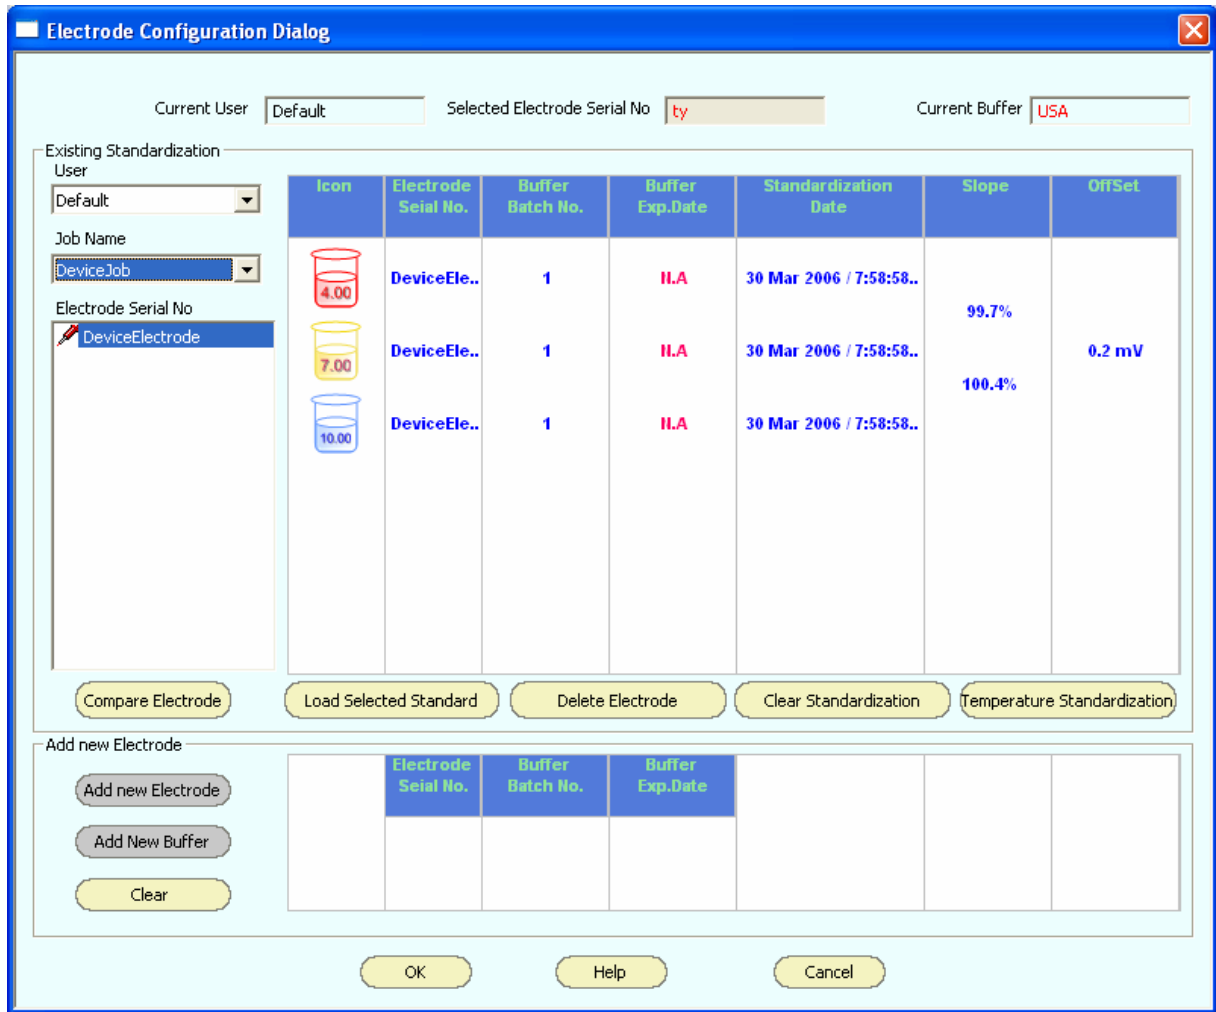

Figure 23 : Selecting standardization available in the meter
5. **Electrode Configuration Dialog** appears. (Figure 23)